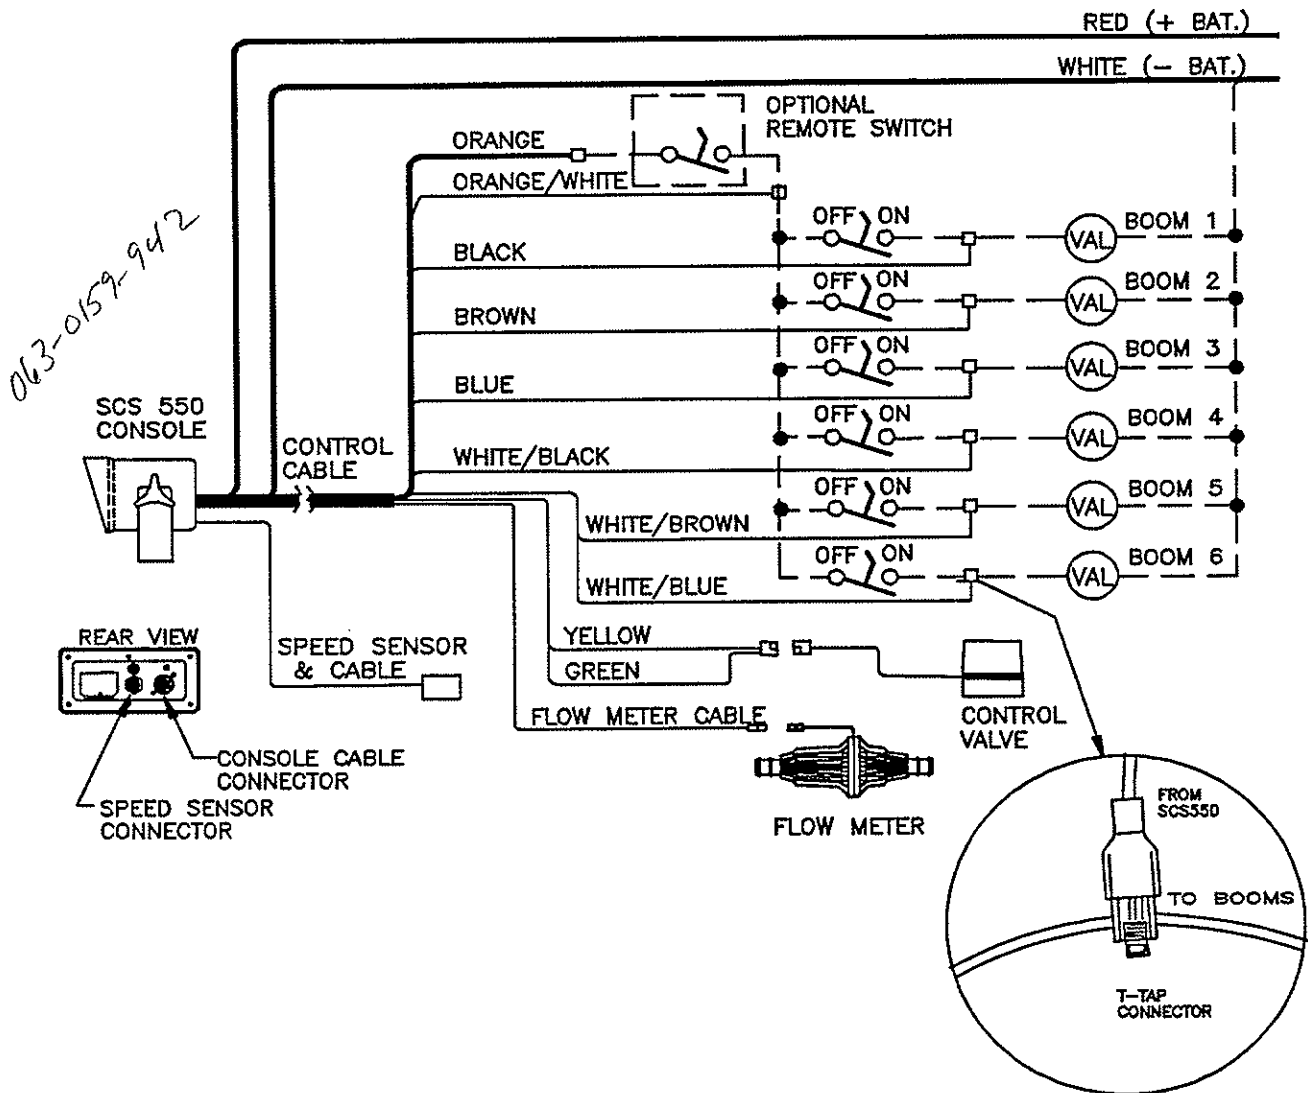

FIGURE 5
2) Connect the 16-foot (4.9 meter) Control Cable to the Flow Meter, motorized Control Valve and Boom On/Off Valves. (See Figure 5). (Black wire to Boom Valve #1, Brown to Boom Valve #2, Blue to Boom Valve #3, White-Black wire to Boom Valve #4, White-Brown wire to Boom #5, White-Blue wire to Boom Valve #6). See Appendix 6 for optional wiring.
- 2) Connect the 16 foot (4.9 meter) Console Control Cable to the plug in the back of the Console. (Reference Figure 5). Route the Console Control Cable out of the vehicle cab and terminate. (Flow Meter extension cables are available from your Dealer).